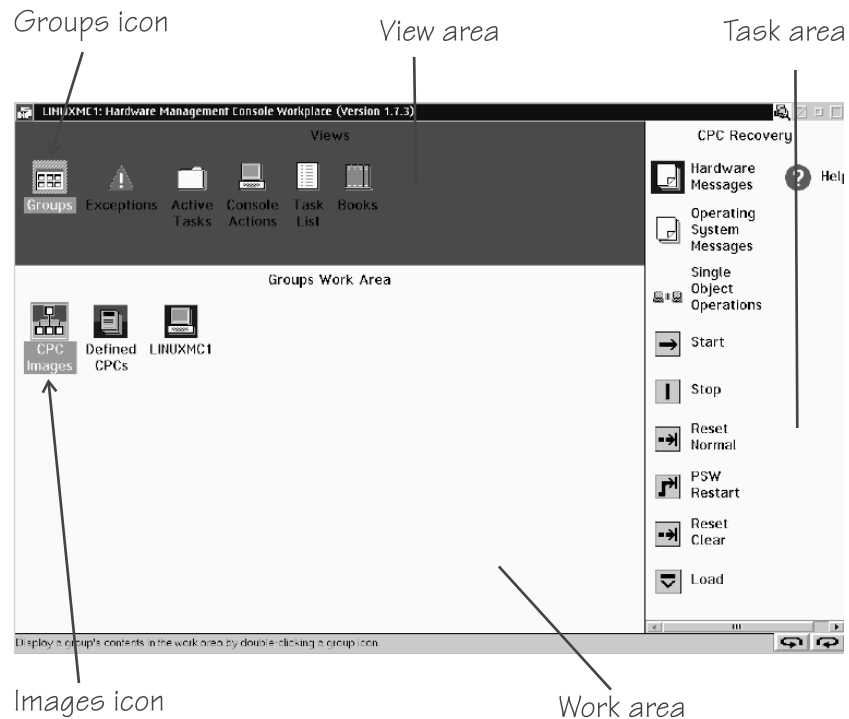

Figure 61. Groups Work Area on the HMC
1. Click the Groups icon in the “Views” area of the HMC to display the “Groups Work Area” (Figure 61 on page 373).